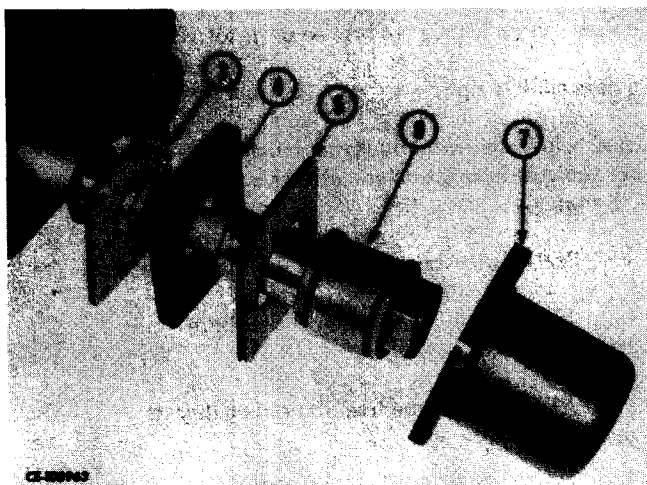

Figure 11-41
Remove cap screws securing cover (7, Fig. 11-41) to valve. Slide plunger assembly (6) out of valve. Remove back-up ring (2), shim pack (3), spacer (4) and shim pack (5) from plunger. Remove plunger seal (1) from bore of valve body.
Slide shim pack (5, Fig. 11-41), spacer (4), shim pack (3) and back-up ring (2) on plunger assembly (6). Wrap plunger with plastic material such as polyethylene. Lubricate with clean hydraulic oil and carefully install new lip seal (1) on plunger. Remove protective plastic.